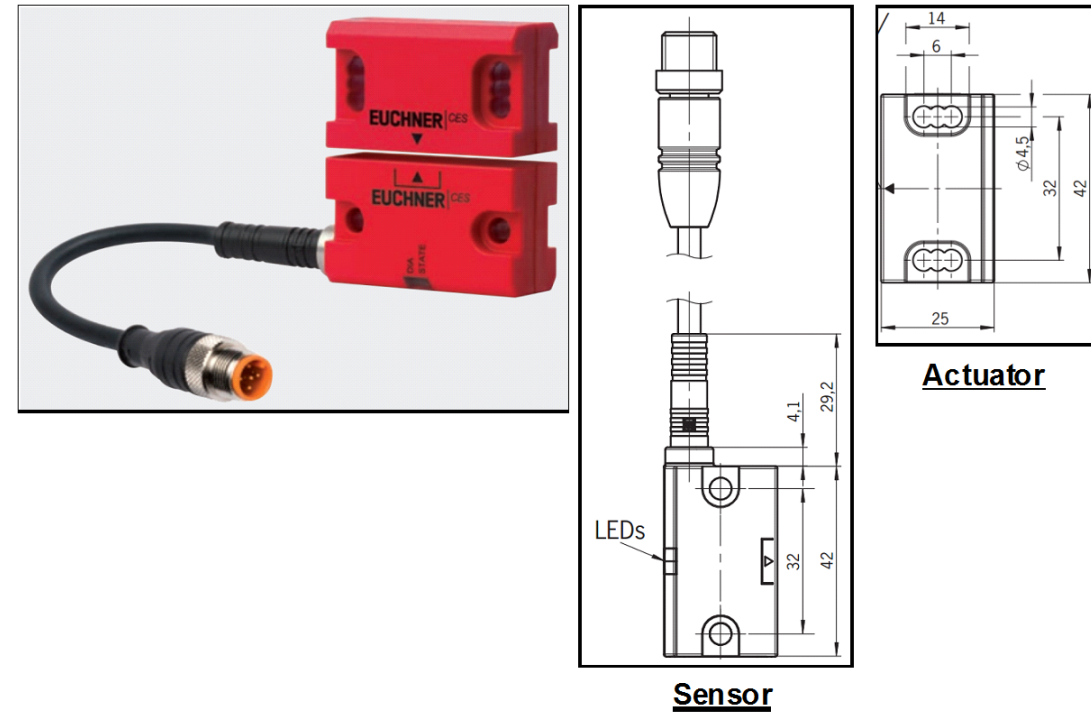

Figure 1: Euchner CES-AP-C04 Series Safety Sensor
8. The 9121-DL12-M module requires the use of a two channel, PL e rated contactless Safety Sensor, specifically, CES-I-AP-M-C04-USB-117324 (reference Figure 1). The Safety Sensor is not included with the DL12 but is available from ATI. The Safety Sensor is powered by 24V US1 current limited (24V_TH) Profinet power.